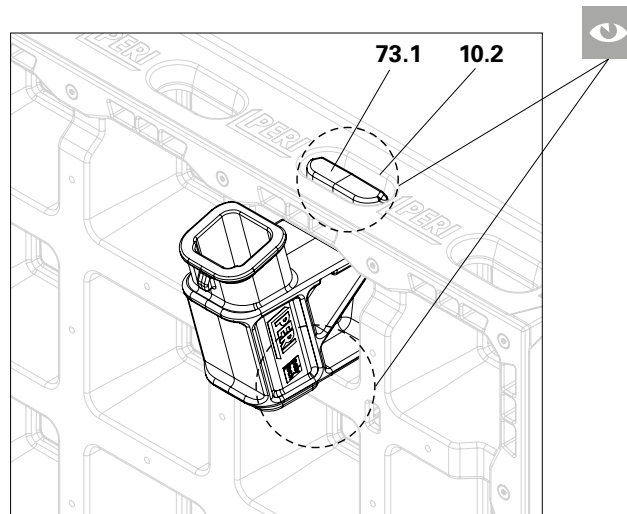

Fig. B4.07
2. Turn the DUO front post holder (73) into the grip hole until the bracket (73.1) engages and the lower ring of the DUO front post holder (73) is resting on the frame of the panel (10). (Fig. B4.07)
3. Insert the PP post (71) or the HSGP-2 into the DUO front post holder (73).